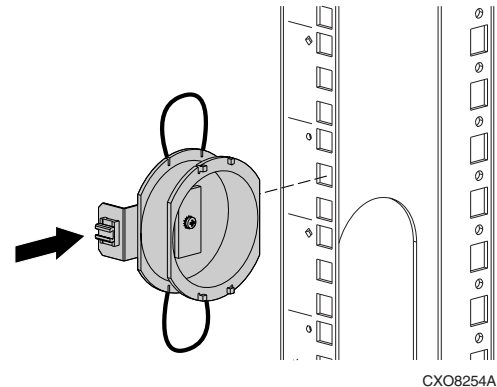

Figure 1: Positioning the spool
2. Position the spool so that the twist lock is inserted into the internal mounting rail hole, as shown in Figure 1.